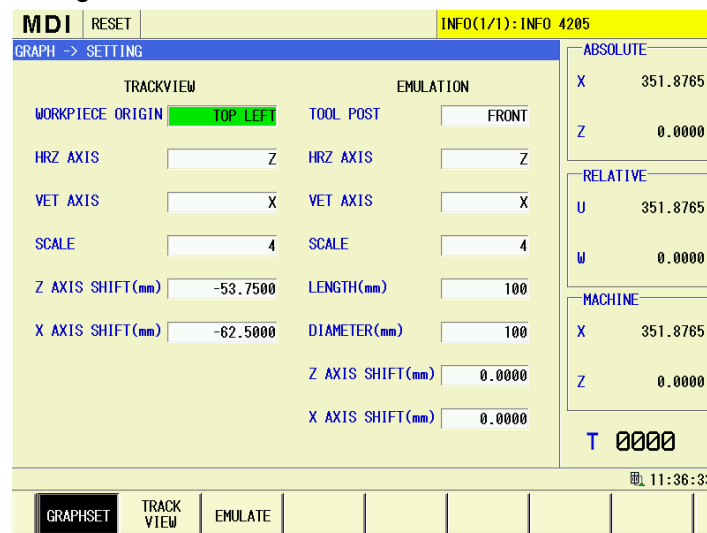

Fig.8-1
(1) Press  function key to enter the graph page set;
(2) On the graph page set, press  software key to enter the graph parameter setting page, which is shown as Fig. 8-1: